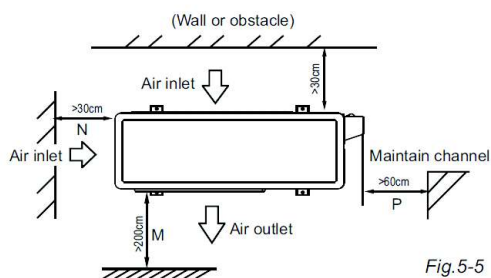

Fig.5-5
- The minimum distance between the outdoor unit and obstacles described in the installation chart does not mean that the same is applicable to the situation of an airtight room. Leave open two of the three directions (M,N,P) (Refer to Fig.5-5)